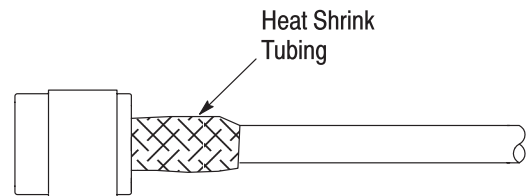

Figure 4
1. Place solder in the contact pin then position the pin on the center conductor so that the shoulder of the pin is flush against the cable dielectric. See Figure 4, Detail A.
2. Slide the connector subassembly over the cable dielectric and under the cable braid. See Figure 4, Detail B.
3. Slide the crimp sleeve over the back-end of the connector subassembly then using the appropriate hex crimp dies, crimp the crimp sleeve to the cable and connector. See Figure 4, Detail C.
2. Apply heat to the tubing, shrinking it onto the cable. See Figure 4, Detail D.